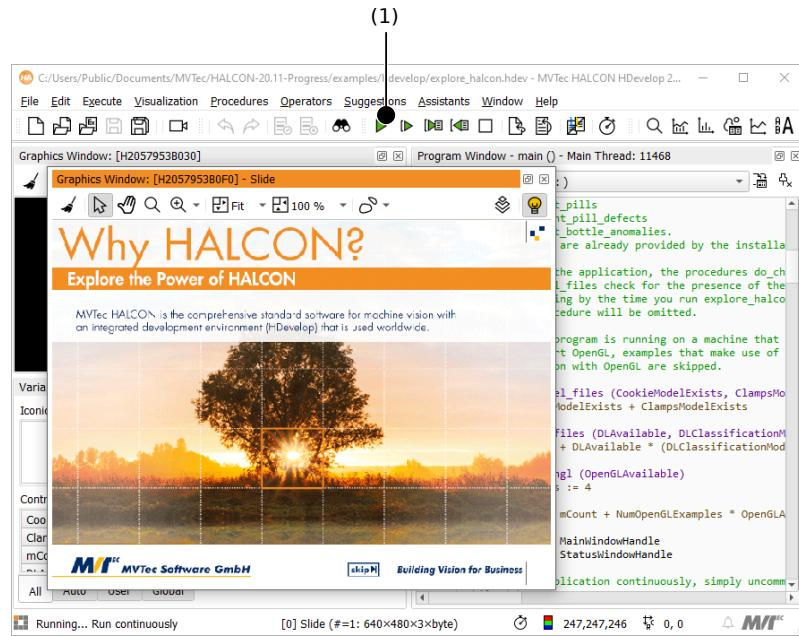

Figure 2.3: Explore the power of HALCON: Click (1) to run the program.
“Explore the Power of HALCON” starts up automatically when loaded from the start dialog. After loading it manually or loading one of the other example programs click ▶ or press **F5** to start it, see figure 2.3 (1).